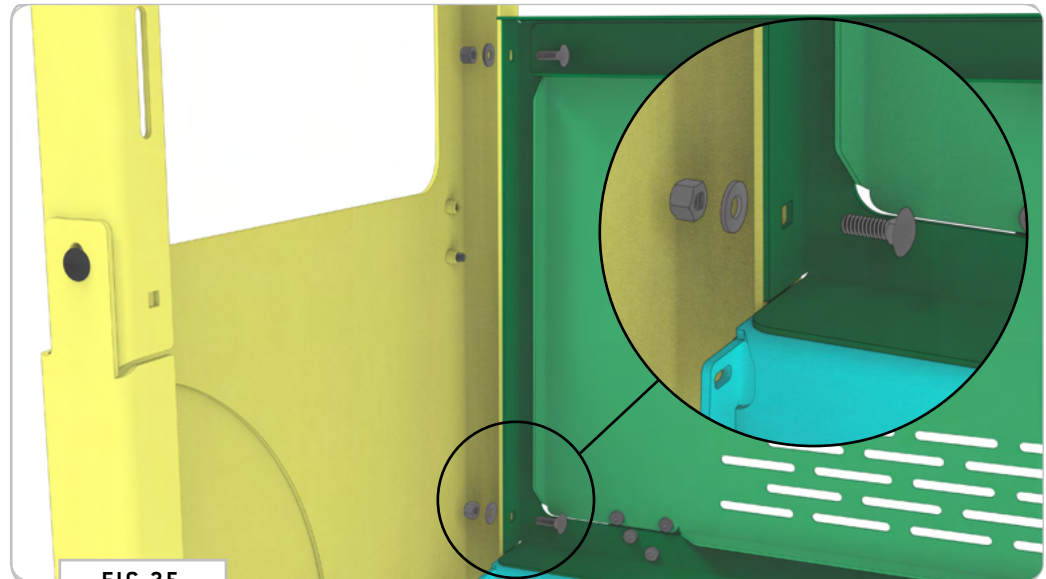
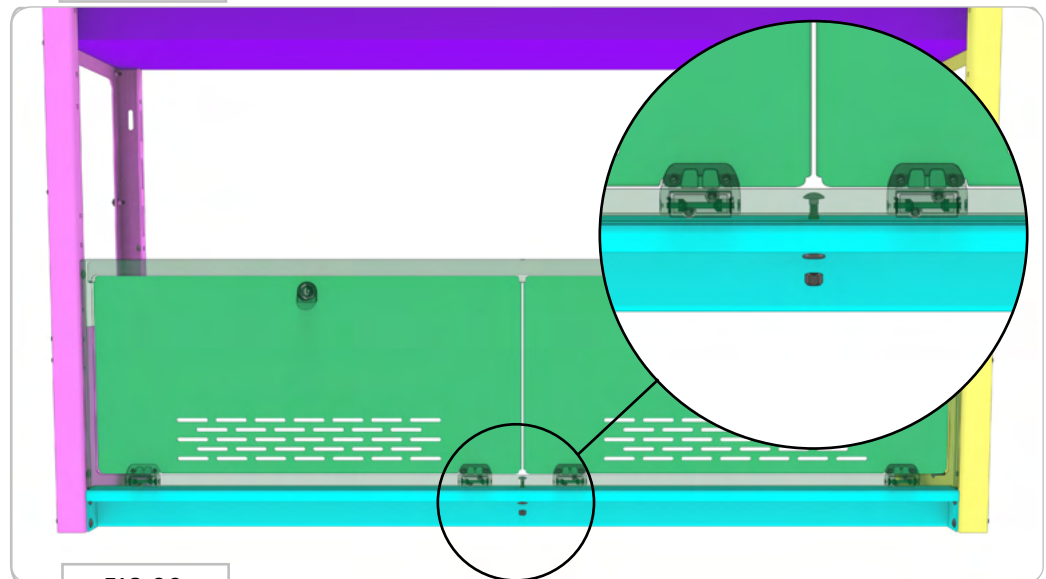

FIG 25
FIG 26
**2.10 Install Bottom Doors:** The mounting holes and hardware for the **Large Sliding Door Cubby** and **Utility Access Panels** are the same. Attach your selection of **Bottom Doors** to the **Left and Right Cabinet Ends** using (4) 1/4-20 x 0.75 Square Neck Carriage Bolts, Flat Washers and Nylon Locknuts (FIG 25). There's a final mounting location in the middle of the unit that will take (1) 1/4-20 x 0.75 Square Neck Carriage Bolt, Flat Washer and Nylon Locknut to finish out this step (FIG 26).